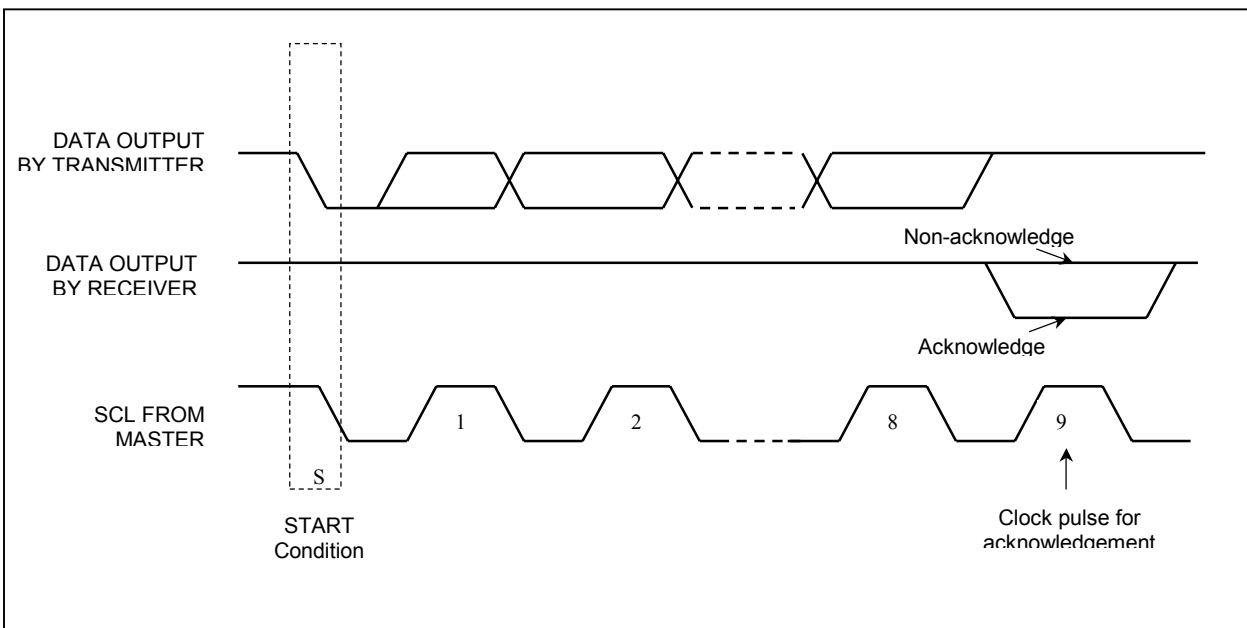

Figure 10 - Definition of the acknowledgement condition
- 4) An acknowledgement signal will be generated after receiving one byte of data, including the slave address and the R/W bit. Please refer to the Figure 10 for the graphical representation of the acknowledge signal. The acknowledge bit is defined as that the SDA line is pulled down during the high period of the acknowledgement related clock pulse.